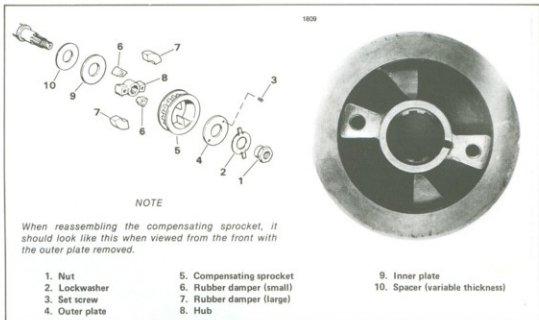

Figure 6-14. Belt Drive Compensating Sprocket
Disassembly/Assembly (Figure 6-14)
4. Assemble the compensating sprocket parts as shown in Figure 6-14.